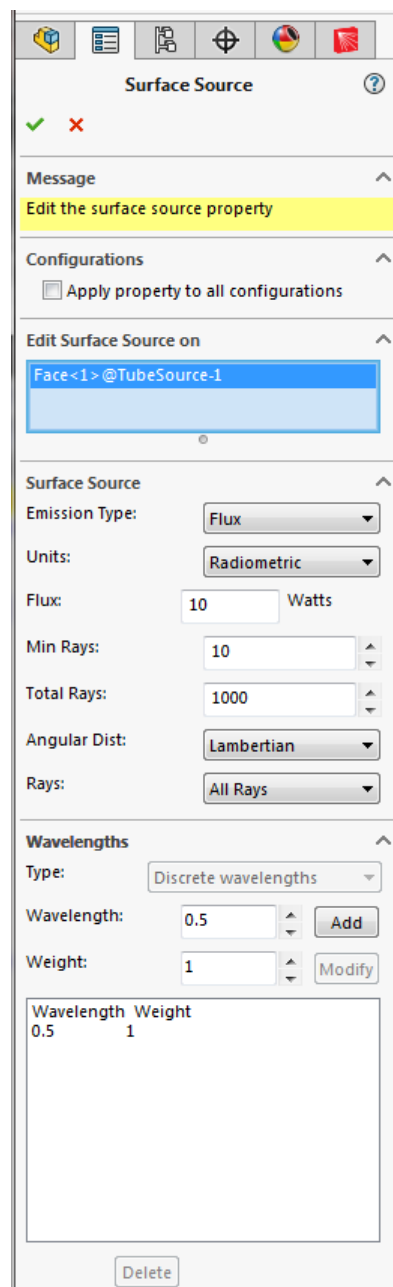
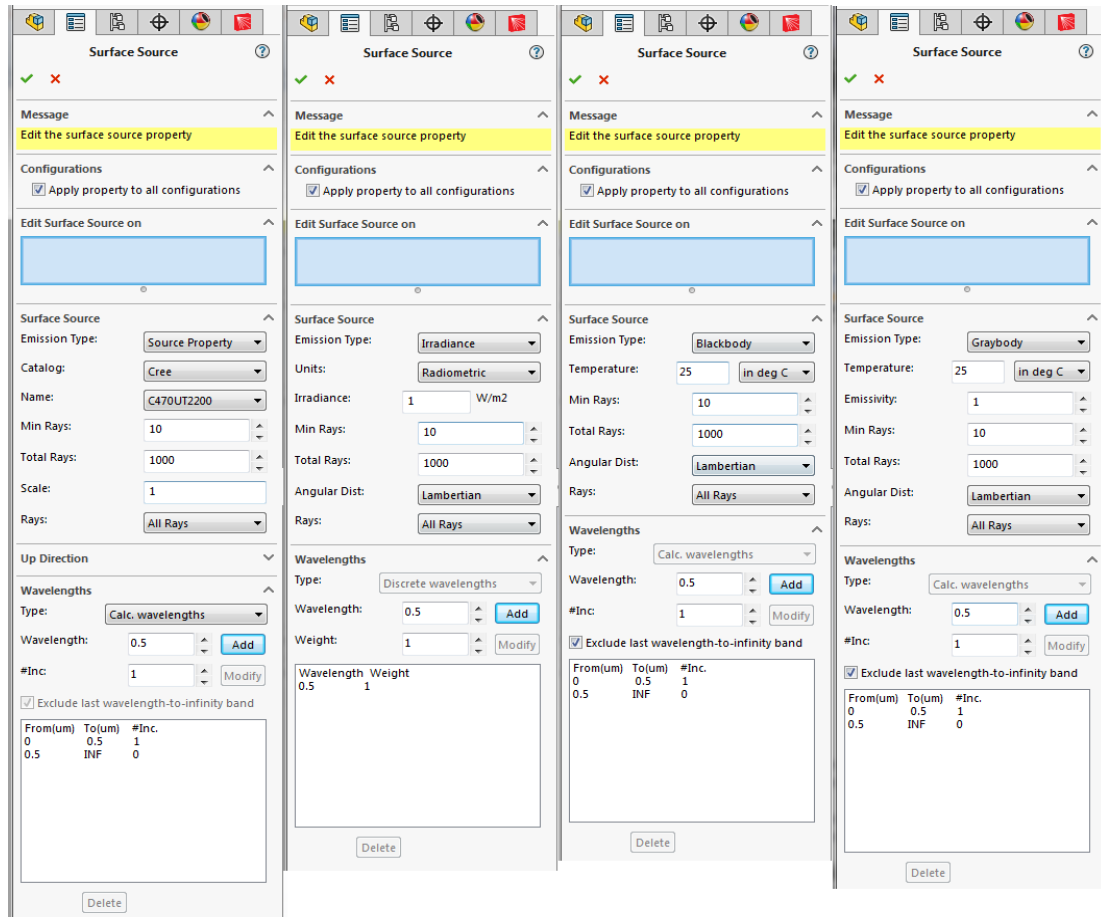

Figure 4.12 Surface Source Property Manager – Flux Emission Type
Figure 4.13 Surface Source Property Manager – For Source Property, Irradiance, Blackbody and Graybody.
- In the **Surface Source** Property Manager, specify the Surface Source property type. The option that you select changes the fields on the Surface Source tab. Select from the following: Source Property, Flux (Figure 4.12), Irradiance, Blackbody or Graybody. The property manager pages for the other types are shown in Figure 4.13. The Source Types are described below.
Figure 4.13 shows the property manager pages for the other emission types. The following bullets describe each of the emission types. There are five types of surface source properties in RayViz. Two types emit discrete wavelengths (flux and irradiance). The other two types emit continuous wavebands (blackbody and graybody). The fifth type, Surface Source Property, can emit either discrete wavelengths or calculated wavelengths.